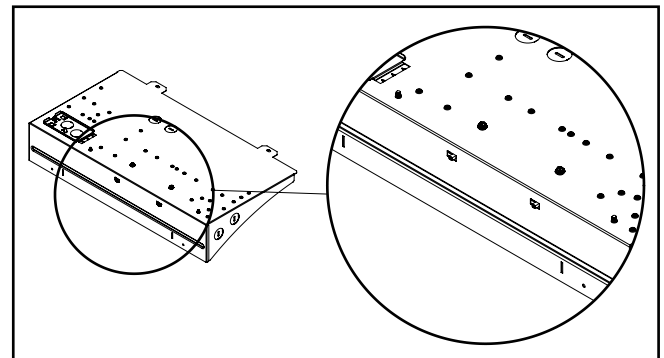

Figure 4.
1. On the driver enclosure are located two slide switches (Figure 4.), one for CCT and the other for lumen. CCT and lumen options must be selected prior to installation.